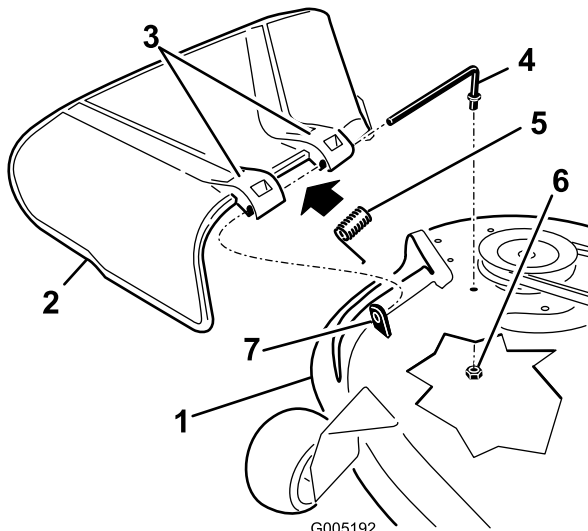

Figure 68
1. Remove the nut (3/8 inch) from the rod under the mower (Figure 68).
9. Secure the rear end of the rod into the mower with a nut (3/8 inch) as shown in Figure 68.
2. Slide the rod out of the short standoff, the spring, and the grass deflector (Figure 68).
4. Replace the grass deflector (Figure 68).
7. Slide rod through the second grass-deflector bracket (Figure 68).